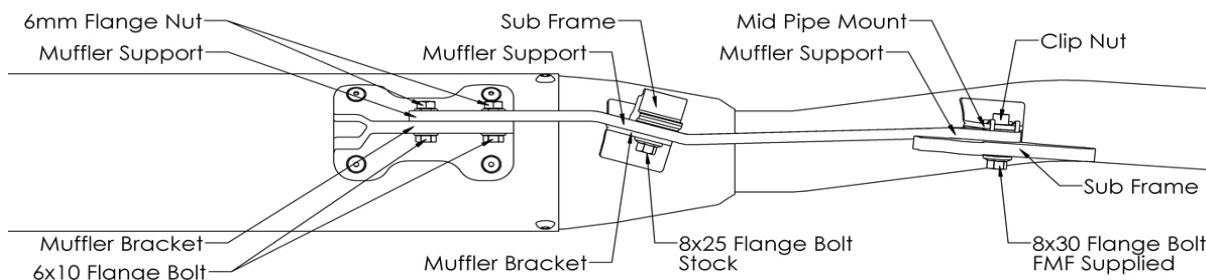

Fig. 1
10. Attach the supplied muffler support bracket to the inside of the rear muffler mount using the supplied 6mm nuts and bolts. When positioned correctly, the support should be on the inside of both muffler mounts and on the outside of the midpipe mount (see Fig. 1). Leave nuts and bolts finger tight.
15. Slide the muffler onto the header. Wipe away any excess silicone. When positioned correctly, the muffler support should be on the inside of both muffler mounts and between the midpipe mount and subframe (see Fig. 1).